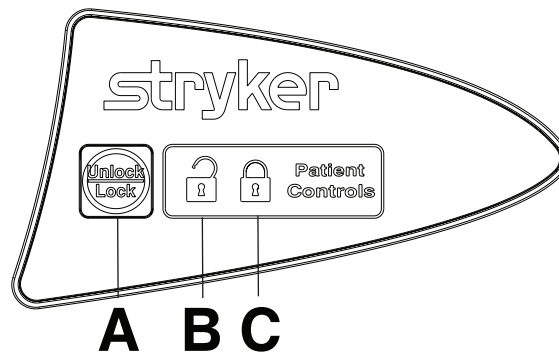

Figure 20 – Patient control panel lockout
To lock the siderail patient control panel, press **Unlock/Lock** (A) once (Figure 20).